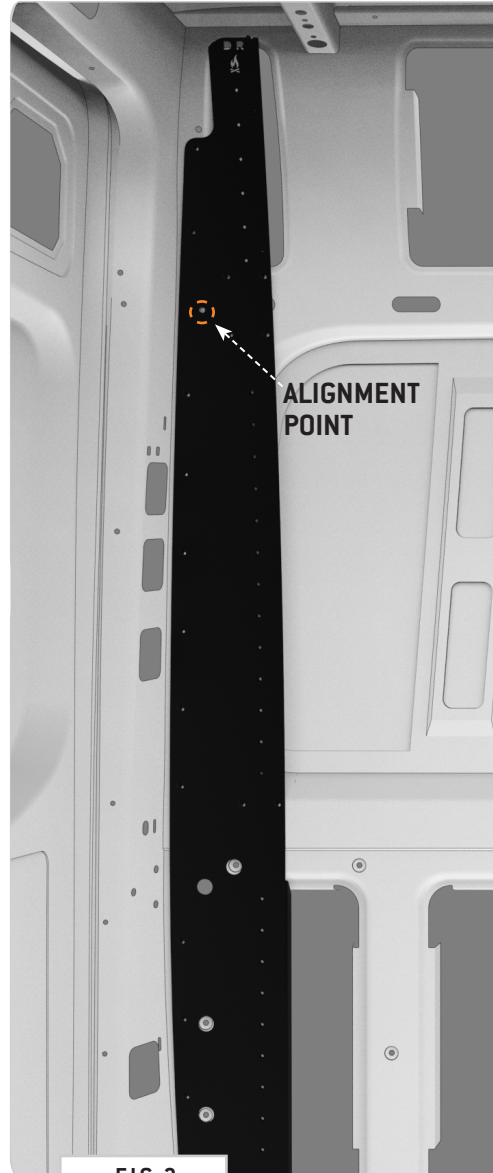

FIG 3
2.1 Align Driver Side Front Bracket: Align the **Driver Side Rear Bracket** to the **Alignment Point** as shown in FIG 3.